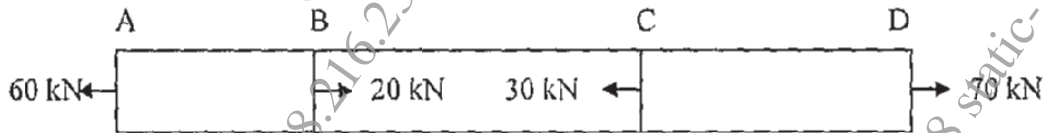

Figure 1
- Q1) a) A square bar ABCD of uniform cross section  $30 \times 30$  mm dimension is subjected to loads as shown in Figure 1. Find the total elongation of the bar and the maximum stress in the bar. If  $E = 200$  GPa. Length of members AB = 500 mm, BC = 1100 mm, CD = 900 mm respectively. [7]